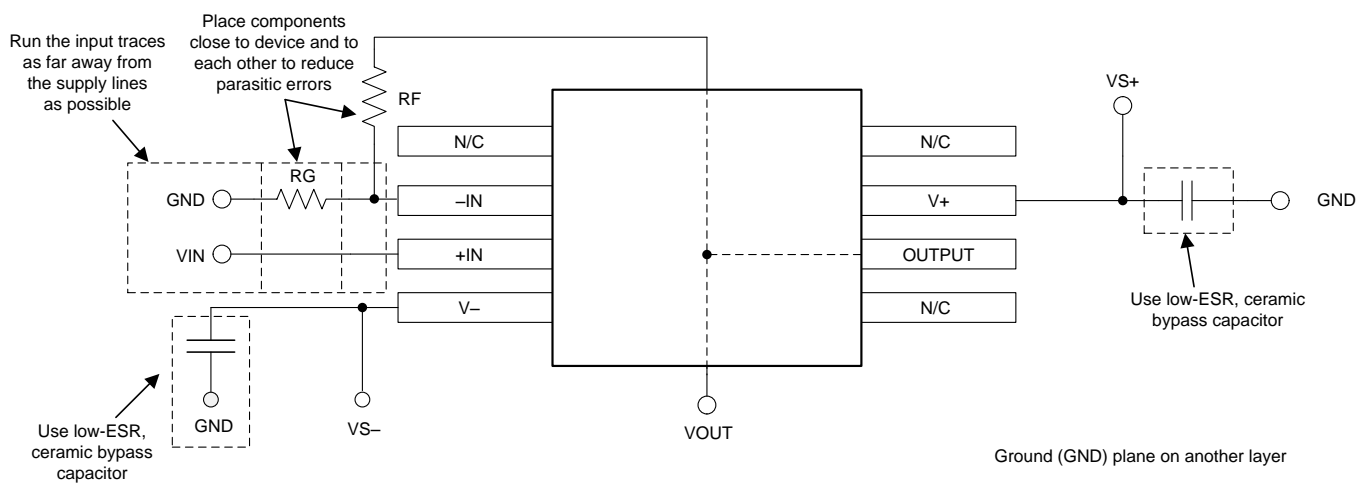

Figure 31. Operational Amplifier Board Layout for Noninverting Configuration
- Place the external components as close to the device as possible. As shown in Figure 31, keeping RF and RG close to the inverting input minimizes parasitic capacitance.